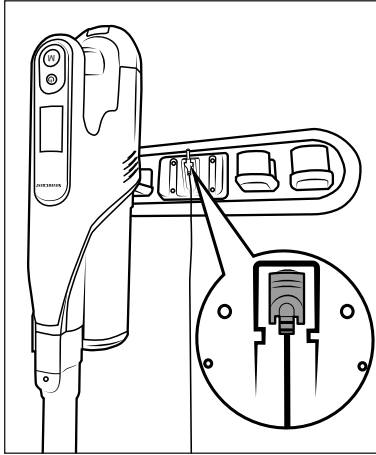

Fig. 6
- ◆ Place the vacuum cleaner in the wall bracket **18** from above so that the barrel plug **11** slips into the charging socket **3** on the bottom of the appliance. The battery indicator **2b** starts flashing and the charging process starts (see Fig. 6 and 7).